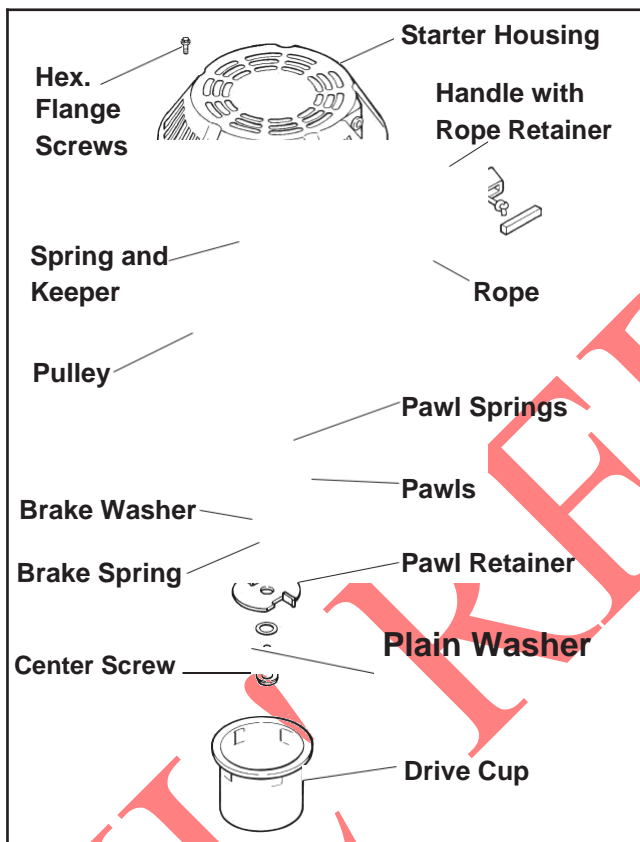

Figure 7-1. Retractable Starter—Exploded View.
2. Replace all worn or damaged components. Use only genuine Kohler replacement parts as specified in the Parts Manual. All components shown in Figure 7-1 are available as service parts. Do not use nonstandard parts.